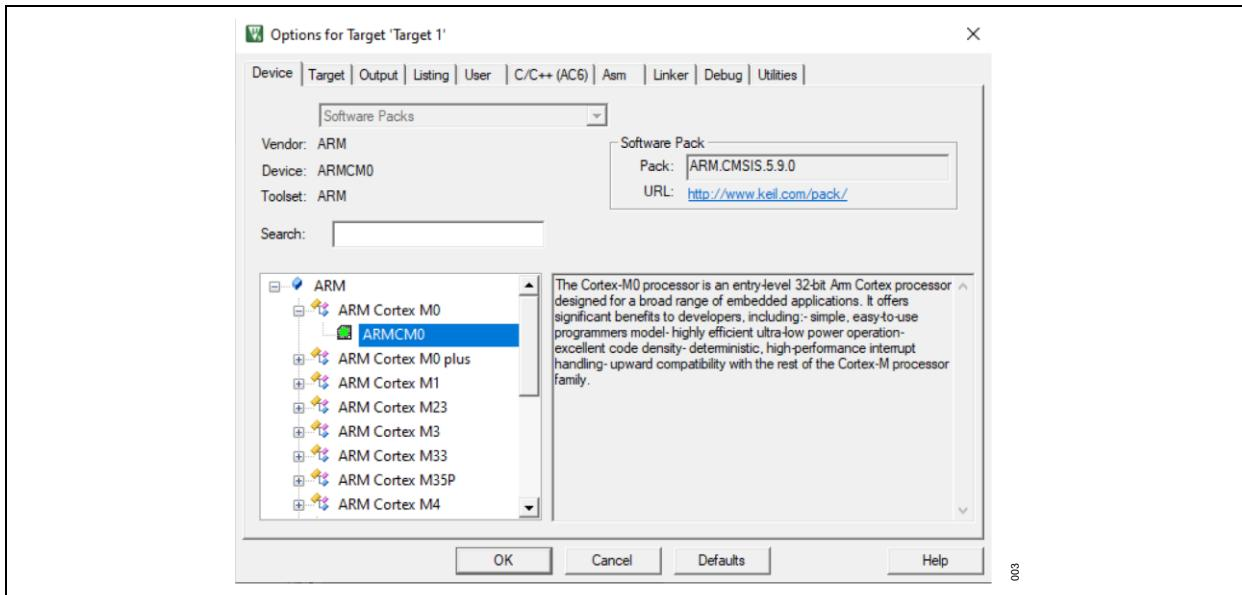
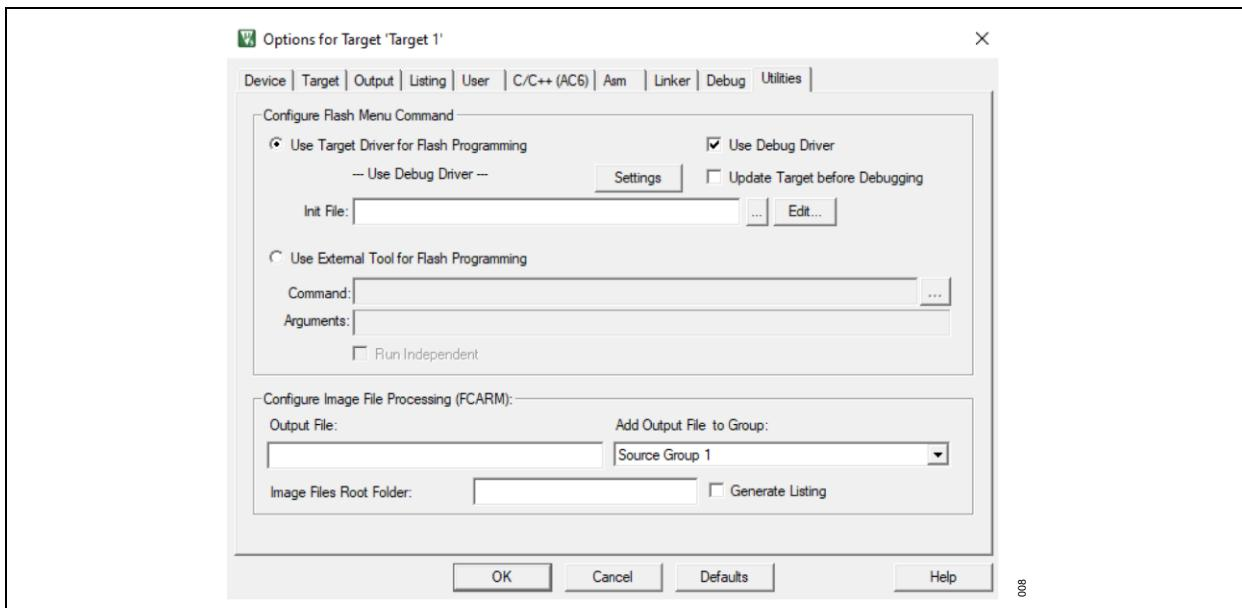

Figure 2. Keil μVision Settings – Device Tab
Figure 7. Keil μVision Settings – Utilities Tab
3. Open the Keil µVision programmer. Open the sample project and verify that the Project options are as shown in Figure 2 to Figure 7.